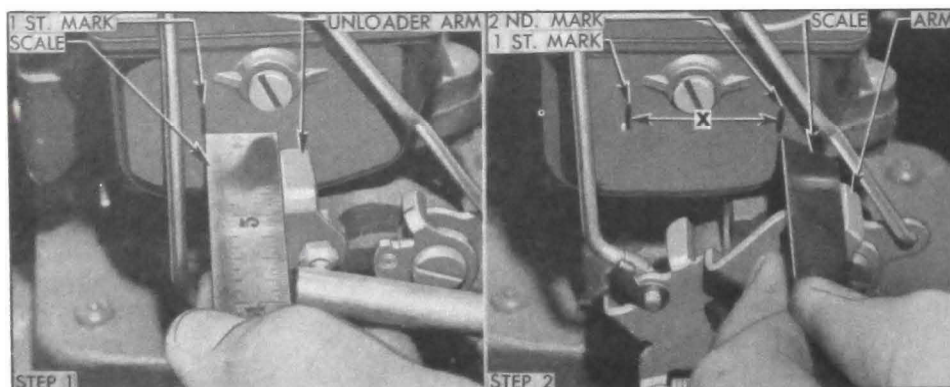

Figure 10-29—Checking Carter Vacuum Switch Timing
3. While holding throttle valve fully closed, hold a scale (or other strip of metal $\frac{5}{8}$ " or more wide) against the choke unloader arm of throttle lever and make a pencil mark on float bowl at opposite edge of scale. See figure 10-29, step 1.
4. Slowly open throttle while holding scale in position against unloader arm. At point where the test lamp lights make a second mark on float bowl at same edge of scale. See figure 10-29, step 2.
5. If switch is correctly timed, the distance (X) between pencil marks on float bowl will be $\frac{15}{16}$ " to $1\frac{5}{16}$ " on the 2-barrel carburetor, or $\frac{3}{4}$ " to $1\frac{1}{16}$ " on the 4-barrel carburetor.